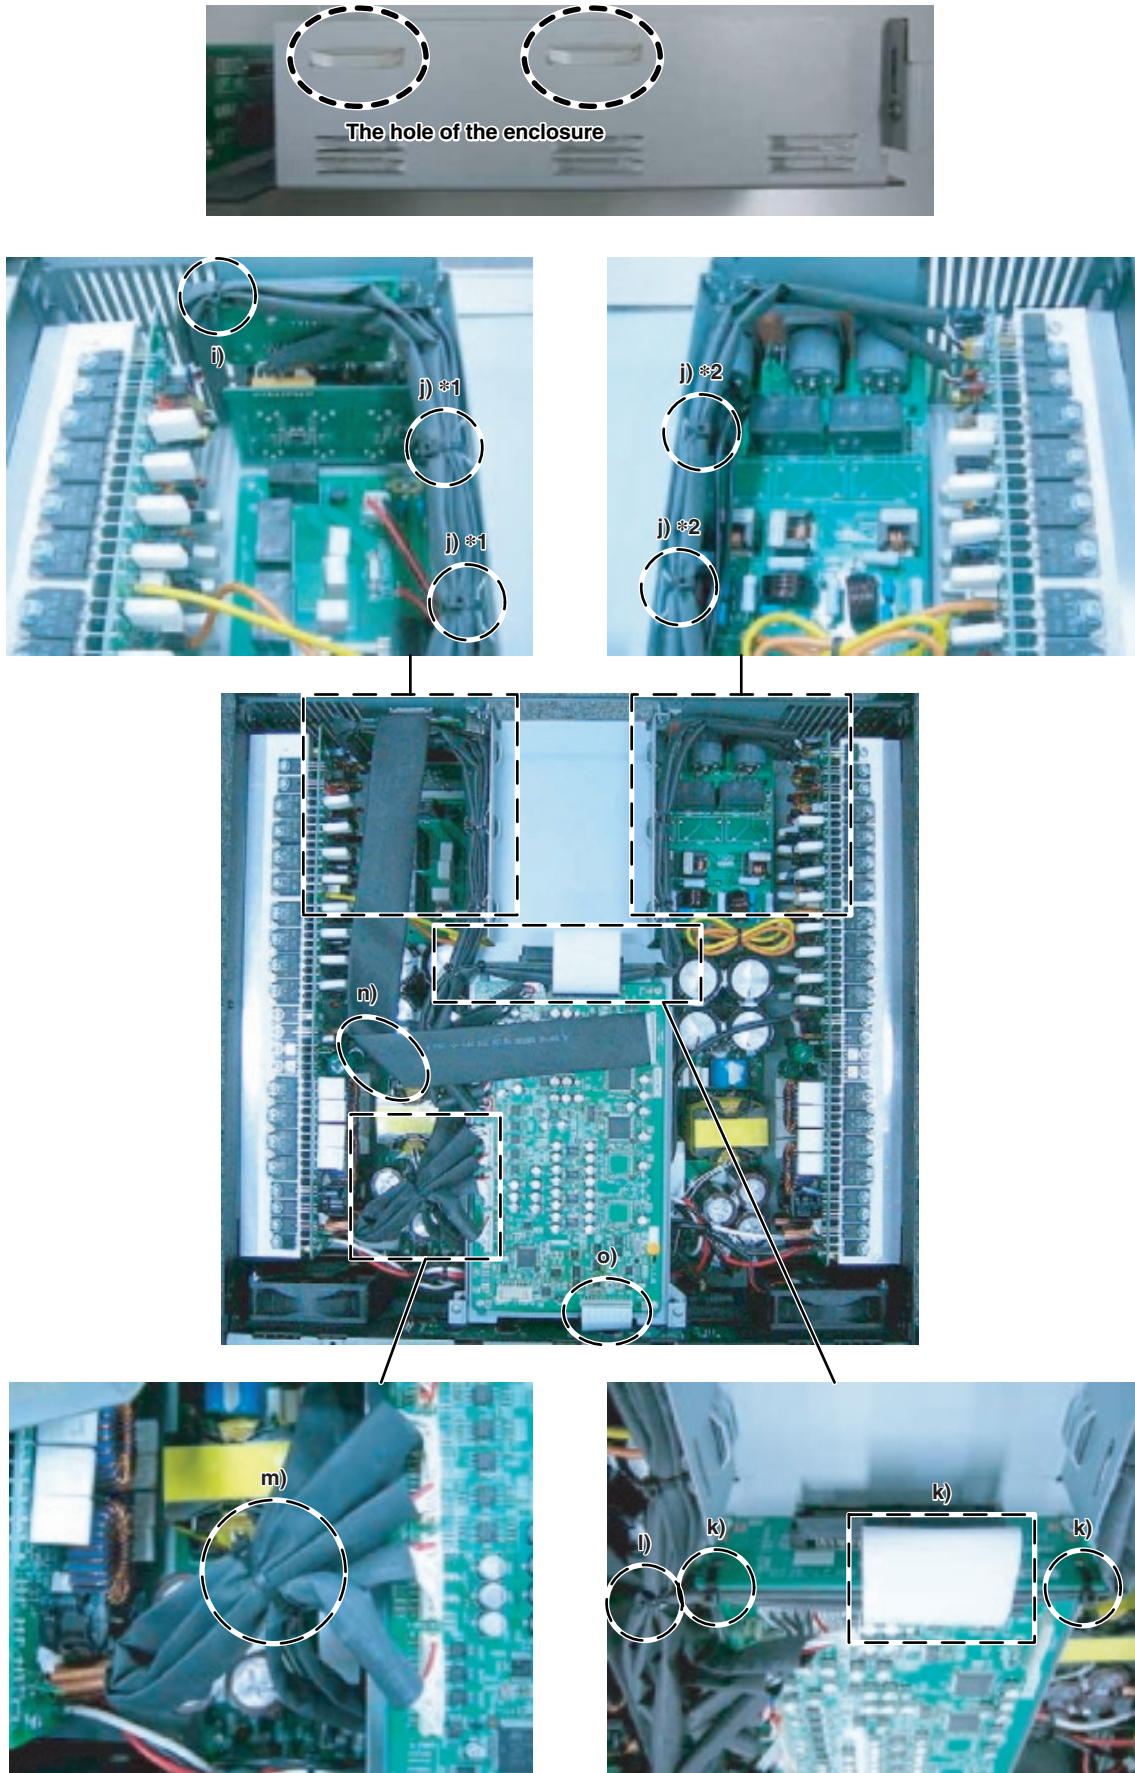

Fig. 22
- i) Fasten the wires (WK02080, WK90770) with a cord holder at the hole of the RS232-GPI circuit board. (Fig. 22)
- j) Fasten the wires (WK02080, WK90770 and WK02070) with a cord holder at the hole of the enclosure. Fasten the wires (WK90790, WK17110) with a cord holder at the hole of the enclosure. (Fig. 22)
- k) Fasten the wires (WK90790, WK17110) with a cord holder at the hole of the OPT-AN circuit board. Then connect the flat cable (WK02120). (Fig. 22)
- l) Fasten the wires (WK02080, WK90770, WK90790, WK17110 and WK02070) with a cord holder at the position close to the OPT-AN circuit board. (Fig. 22)
- m) Bend the wire (WK02090), and fasten the wires (WK02090, WK68760 and WK68770) with a cord holder. (Fig. 22).
- n) Bend the flat cable as shown in the figure. (Fig. 22)